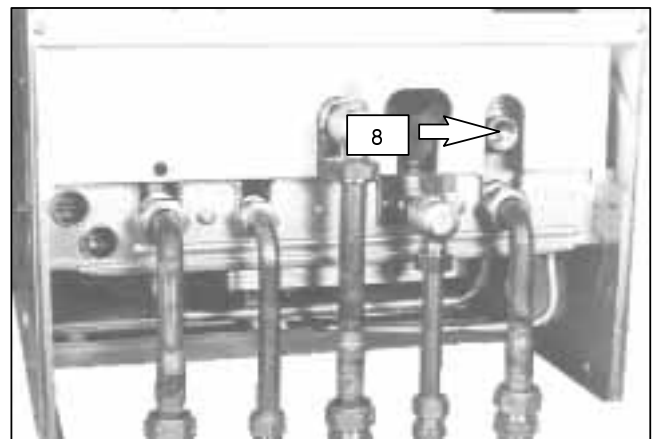

fig. 3.5
- 5 Connect the pressure relief valve's outlet to a drain (8 in fig. 3.5) .